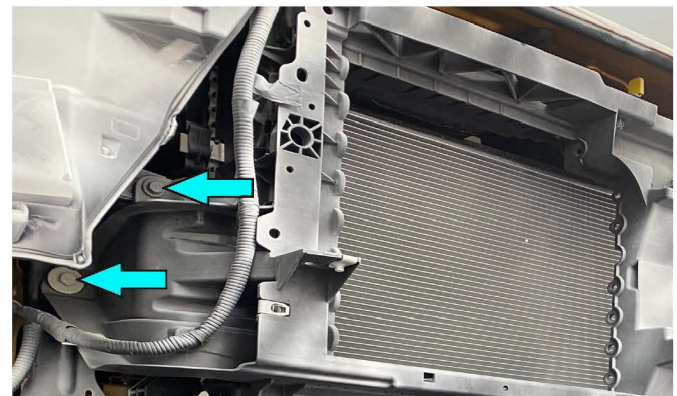

Fig.29
29. Unscrew OE bolts on both sides of the vehicle (fig.29).